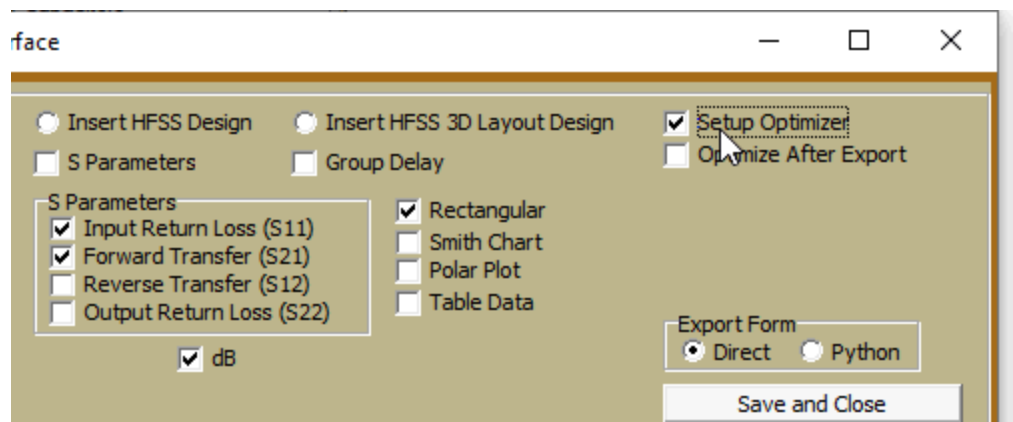

Figure 3: AEDT Export Panel Optimization Selections.
FilterSolutions Quick Optimization gets the design simulation response close, but additional optimization may be performed in AEDT Circuits. This may be useful, for example, if it is desired to obtain a more accurate circuits optimized design prior to using the design or prior to initiating an electromagnetic (EM) optimization of the design. Circuits optimization export selections are located in the upper right of the export control panel, as shown in Figure 3 below. The detailed optimization check box functions are listed in table 1 below. Exported optimizations include all items necessary to perform an optimization, including goals, parameters, and equations. If